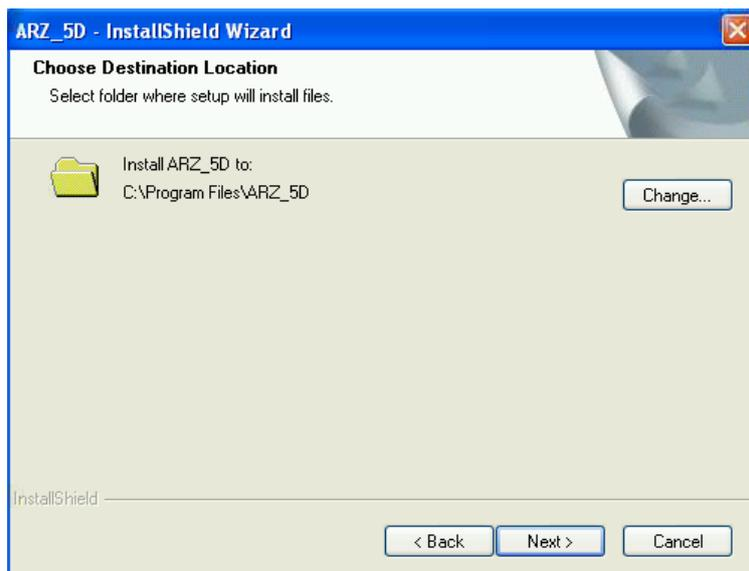

Fig. 129 Change installation path
(4) When the page in Fig. 128 as shown, click "next", the Fig. 129 is shown.